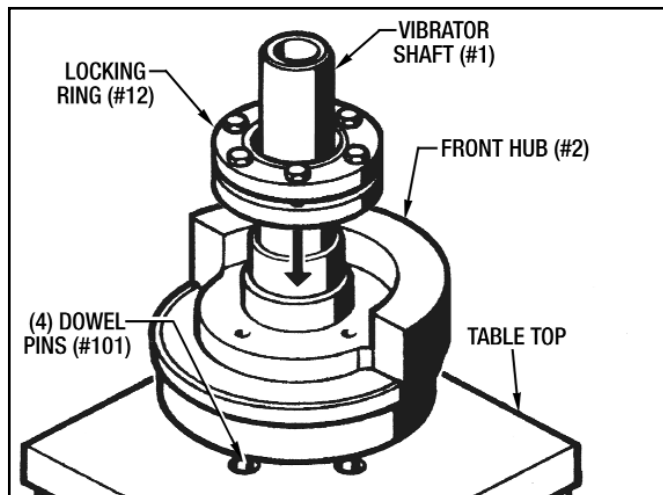

Figure 7.4 - Installing Front Hub to Vibrator Shaft
2. Place the Vibrator Shaft (#1) in a vertical position with the rotary union end pointed up. Make sure there are (4) clearance holes in the bench top for the (4) Dowel Pins (#101) which are pointing downward. (See Figure 7.4)